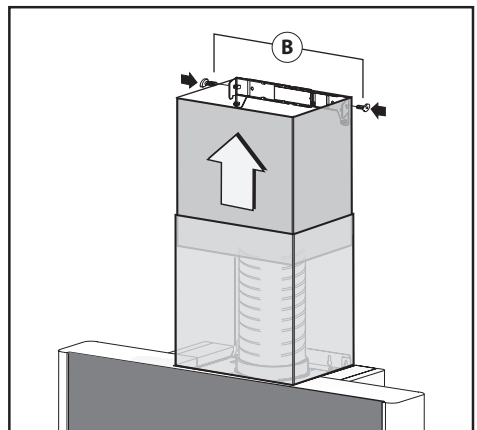

Fig.11
- Slide the top connector inside the lower duct and place this on the body (Fig.11).
- Pull out the top duct as far as the bracket and secure it using screws **B** (Fig.11).